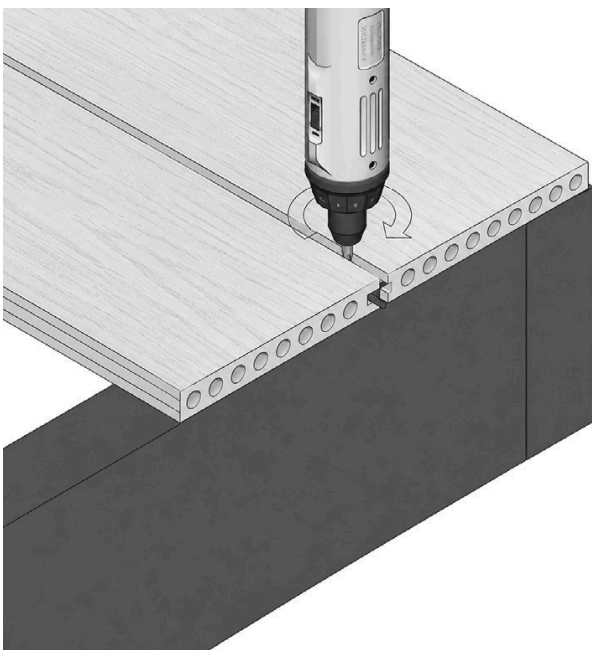

FIG. 6 - HIDDEN CLIPS TIGHTENED DOWN TO THE JOIST
- 05 Fully tighten the hidden clips, between the last boards installed, down to the joists (fig. 6). Apply sideward pressure on the decking to ensure the tabs are hard up against the inside of the decking groove.